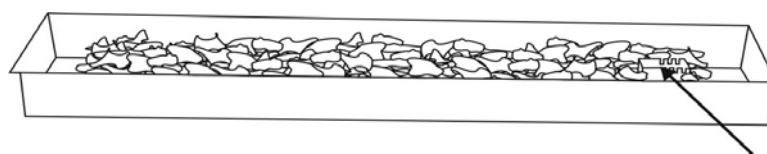

Figure 6
4. Remove the cardboard cover from the ignition well as shown in Figure 6.